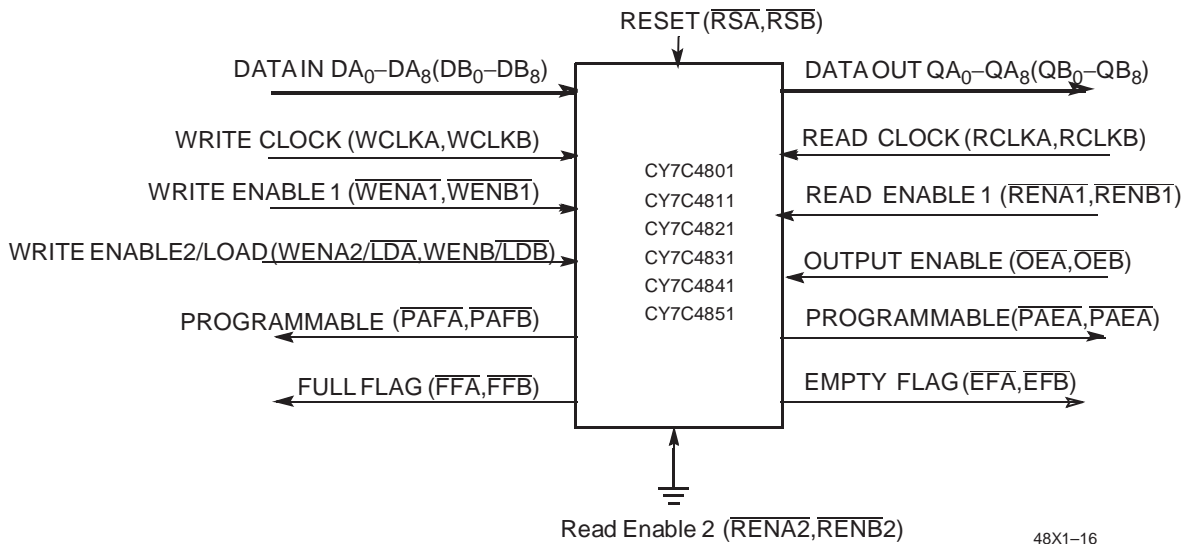

Figure 2. Block Diagram of 256 x 9,512 x 9,1024 x 9,2048 x 9,4096 x 9,8192 x 9 Double Sync FIFO Used in a Single Device Configuration.
When FIFO A(B) is in a Single Device Configuration, the Read Enable 2 $\overline{\text{RENA2}}(\overline{\text{RENB2}})$ control input can be grounded (see Figure 2). in this configuration, the Write Enable2/Load